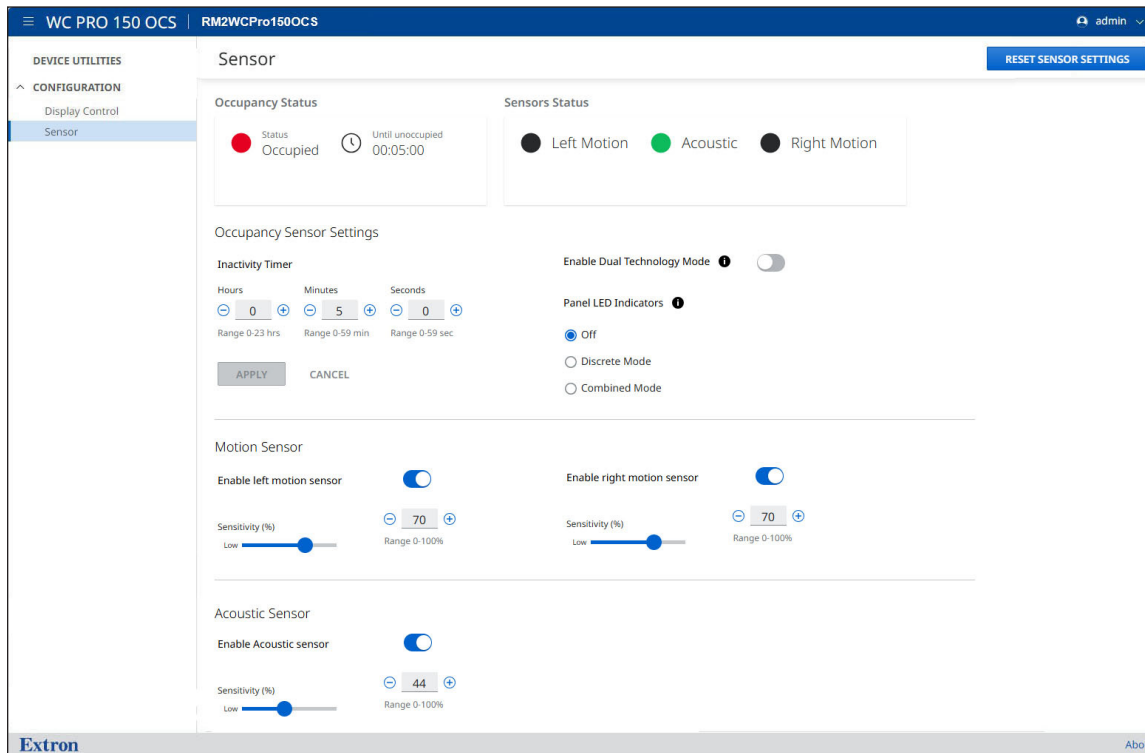

Figure 30. Sensor Page
The Sensor page has five panels to view the status and configure the occupancy, motion, and acoustic sensor settings. Select the **Sensor** subtab (see figure 21, ⑨ on page 26) under the **CONFIGURATION** tab to open the Sensor page (see figure 30).